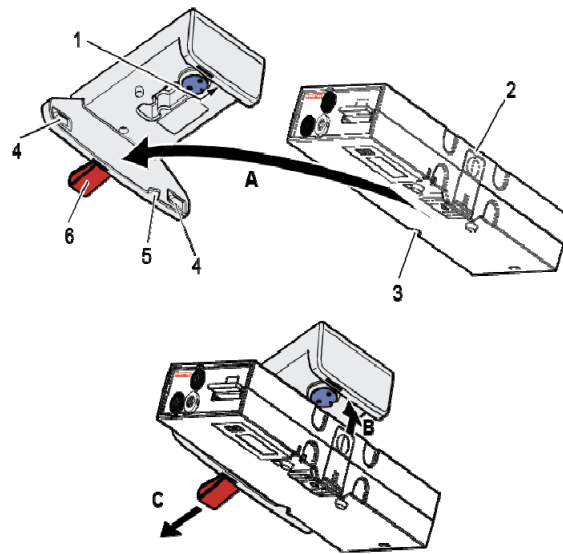

Fig. 4-35 Inserting the patient box into the charging bracket (ceiling installation)
1. Position the patient box as shown in Fig. 4-35.
1. Disconnect the safety belt (not illustrated in Fig. 4-35).
2. Firmly hold the patient box and pull the loop (item 6) (item C).